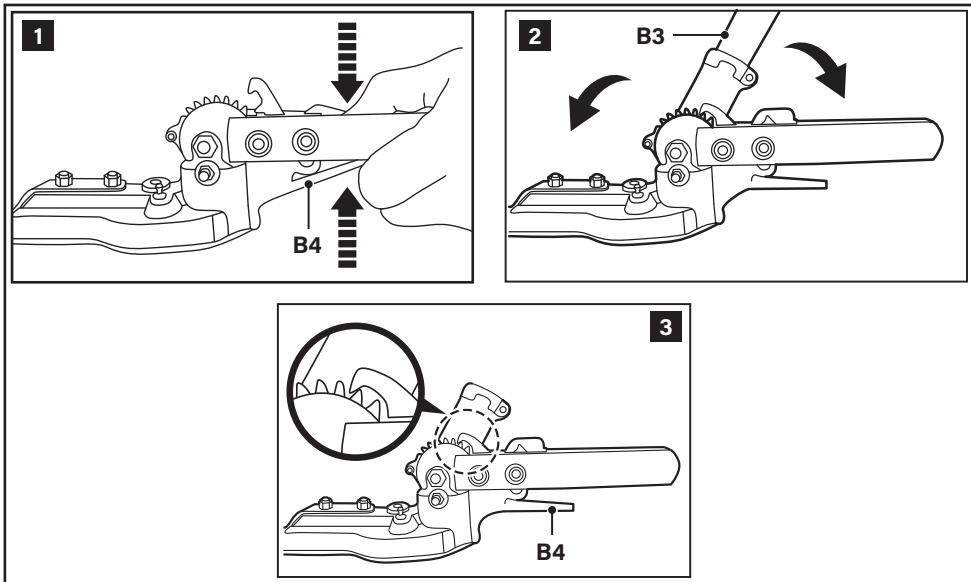

Fig. 19
1. Press the locking levers (B4) with one hand and hold them in position (Fig. 19, step 1).
2. Move the shaft tube (B3) with the other hand until the desired angle is adjusted. The angle can be adjusted from -90° to $+60^{\circ}$ (Fig. 19, step 2).
3. Release the locking levers (B4) when the desired angle is adjusted. Ensure that the hook engages between two teeth of the tooth wheel (Fig. 19, step 3).